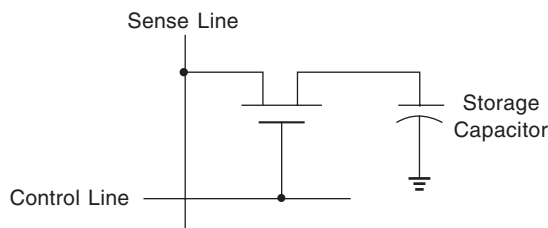

Fig. 15.16 Dynamic Cell.
4. **Dynamic RAMs:** Figure 15.16 shows one of the memory elements (called cells) in a dynamic RAM. When the sense and control lines go HIGH, the MOSFET conducts and charges the capacitor. When the sense and control lines go LOW, the MOSFET opens and the capacitor retains its charge. In this way, it can store 1 bit. A dynamic RAM may contain thousands of memory cells. Since only a single MOSFET and capacitor are needed, the dynamic RAM contains more memory cells than a comparable static RAM. In other words, a dynamic RAM has more memory locations than a static RAM of the same physical size.